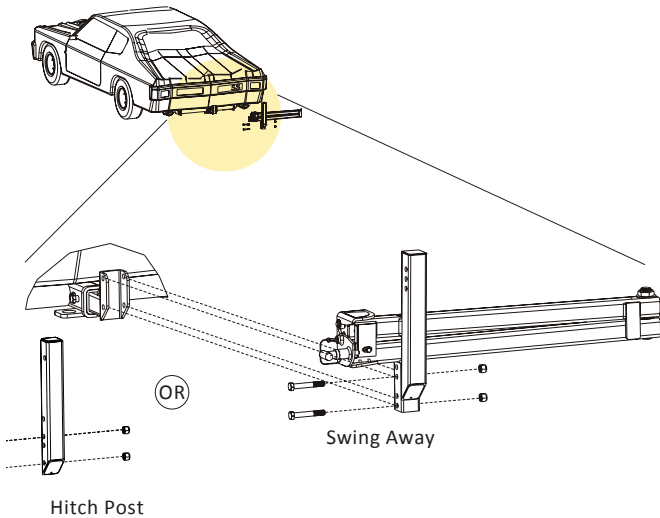

Figure 4-12
2. Fasten the swing away or hitch post to the hitch adapter. *See Figure 4-12.*